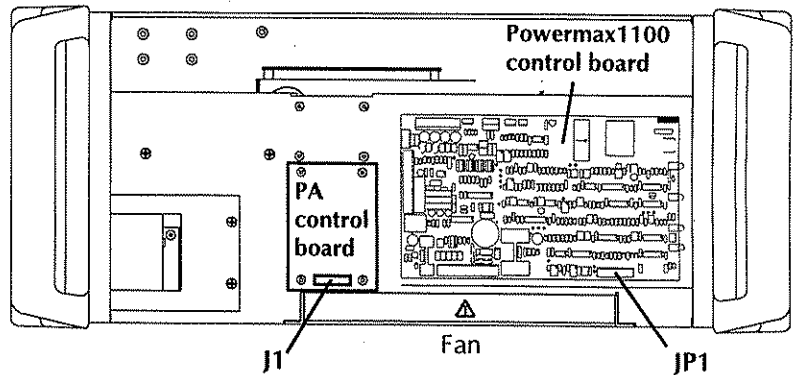

Figure 3 - PA Control Board and Harness Installation
5. Mount the PA control board with the four 6-32 screws provided in the kit. Orient the board with the connector J1 facing the fan side of the power supply as shown in Figure 3.
6. Attach the harness from the PA control board connector J1 to the control board connector JP1 - Fig. 3.